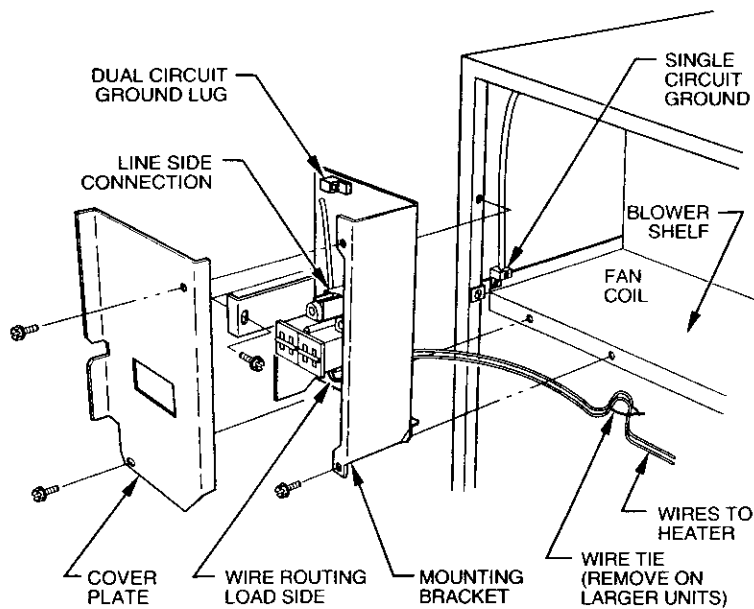

Fig. 3—Installation of Circuit Breaker Model Heater
After installing heater assembly, attach circuit breaker assembly to unit with screws provided. (See Fig. 3.) On fan coil units size 042 and larger, remove wire tie that shortens wire length between heater and circuit breaker assembly to allow mounting of circuit breaker assembly. (See Fig. 3.)
2. For 15- and 20-kw circuit breaker heaters, an additional ground lug is provided on circuit breaker mounting bracket for dual-circuit grounding. (See Fig. 3.)